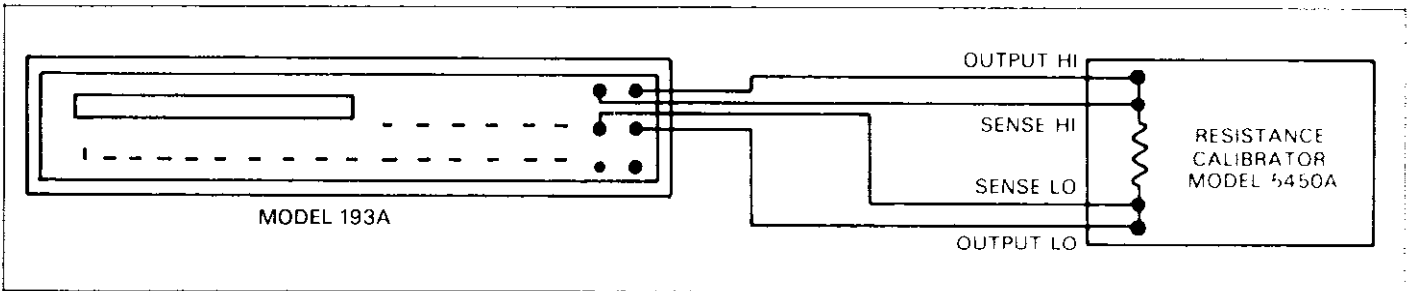

Figure 6-4. Four-Wire Resistance Calibration Configuration (200Ω-20kΩ Ranges)
2. Connect the resistance calibrator to the instrument as shown in Figure 6-4.